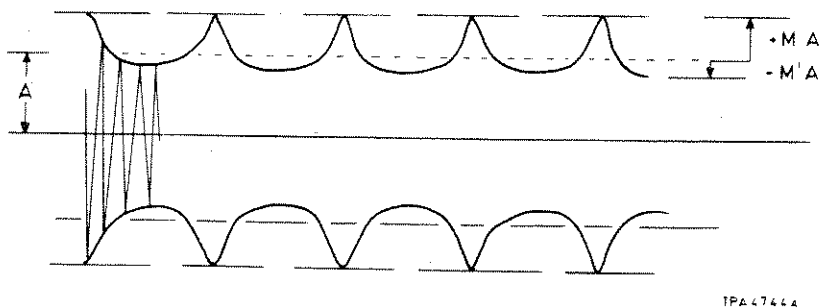

Fig. 3 Asymmetrical modulation
52. The example of a.m. shown in Fig. 3 exhibits gross asymmetry and carrier minima and maxima are very unequally disposed about the mean, unmodulated, level. On such signals the 2305 will measure the quantities  $M$  and  $M'$  shown in the figure, when  $P+$  and  $P-$  are requested, or, their average for  $\frac{P-P}{2}$ . The oscilloscope observer, however, has no reliable way of detecting where the mean level lies and the usual formula employed of a.m. =  $\frac{P - T}{P + T}$  will not, in general, yield the same result as a 2305 measurement of  $\frac{P-P}{2}$ . This can be readily verified by a numerical evaluation of asymmetrical modulation using both formulae. The example shown in Fig. 3 is somewhat extreme, but asymmetry of a few percent of this kind can frustrate an attempt to get agreement between the two measurement methods to within 1%. Any decision as to which measurement is correct requires attention to the definition of the measurement taking the distortion into account.